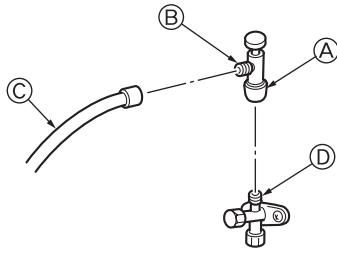

**Fig. 4-8**
- ① Remove the cap, pull the handle toward you and rotate 1/4 turn in a counterclockwise direction to open.
- ② Make sure that the stop valve is open completely, push in the handle and rotate the cap back to its original position.
- (2) Liquid side (Fig. 4-8)
- ① Remove the cap and turn the valve rod counterclockwise as far as it will go with the use of a 4 mm [3/16"] hexagonal wrench. Stop turning when it hits the stopper.
- ② Make sure that the stop valve is open completely and rotate the cap back to its original position.